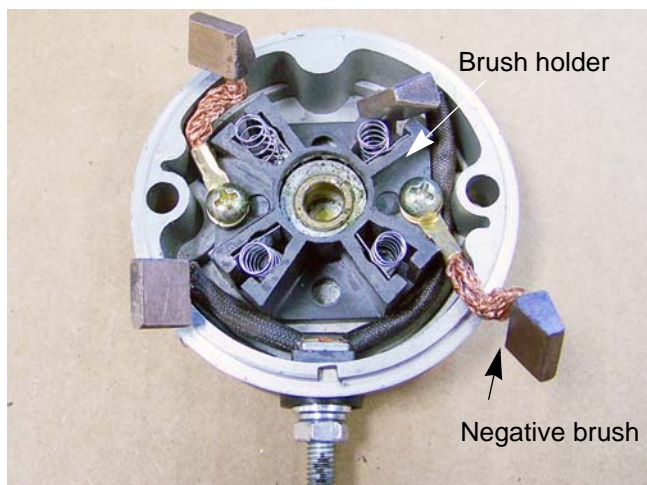

Figure 6.29
- NOTE:** The screws that anchor the negative brushes also anchor the brush holder. See Figure 6.29.